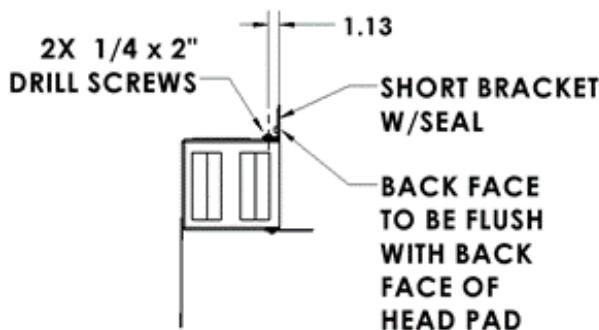
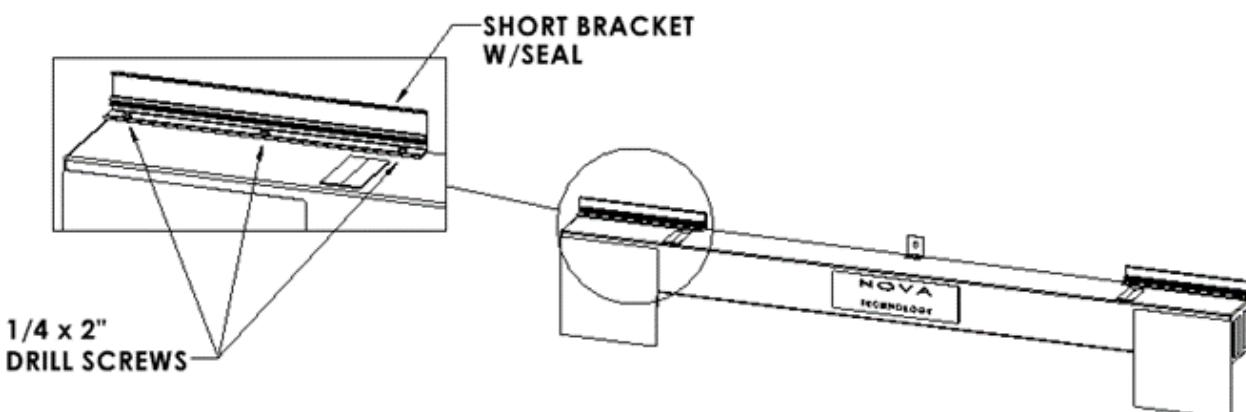

FIGURE 14
FIGURE 15
- c. Mount (2) Short Brackets w/Seal (B) to the top ends of the Head Pad (E). Position the first Short Bracket w/Seal on the top left side of the Head Pad flush with the end face of the Head Pad backer. The back face of the Short Bracket w/Seal needs to be flush with the back face of the Head Pad (Figure 14). The seal side has to lay flat on top of the Head Pad. Mark the (3) drilling locations at each end of the horizontal bracket leg, 1 1/8" from the back face, and then secure the Short Bracket w/Seal using the provided fasteners as shown below (Figure 15). Ensure the new screw locations are not in line with the existing screws on the top of the Head Pad. Repeat this process for attaching the Short Bracket w/Seal on the right end of the Head Pad.